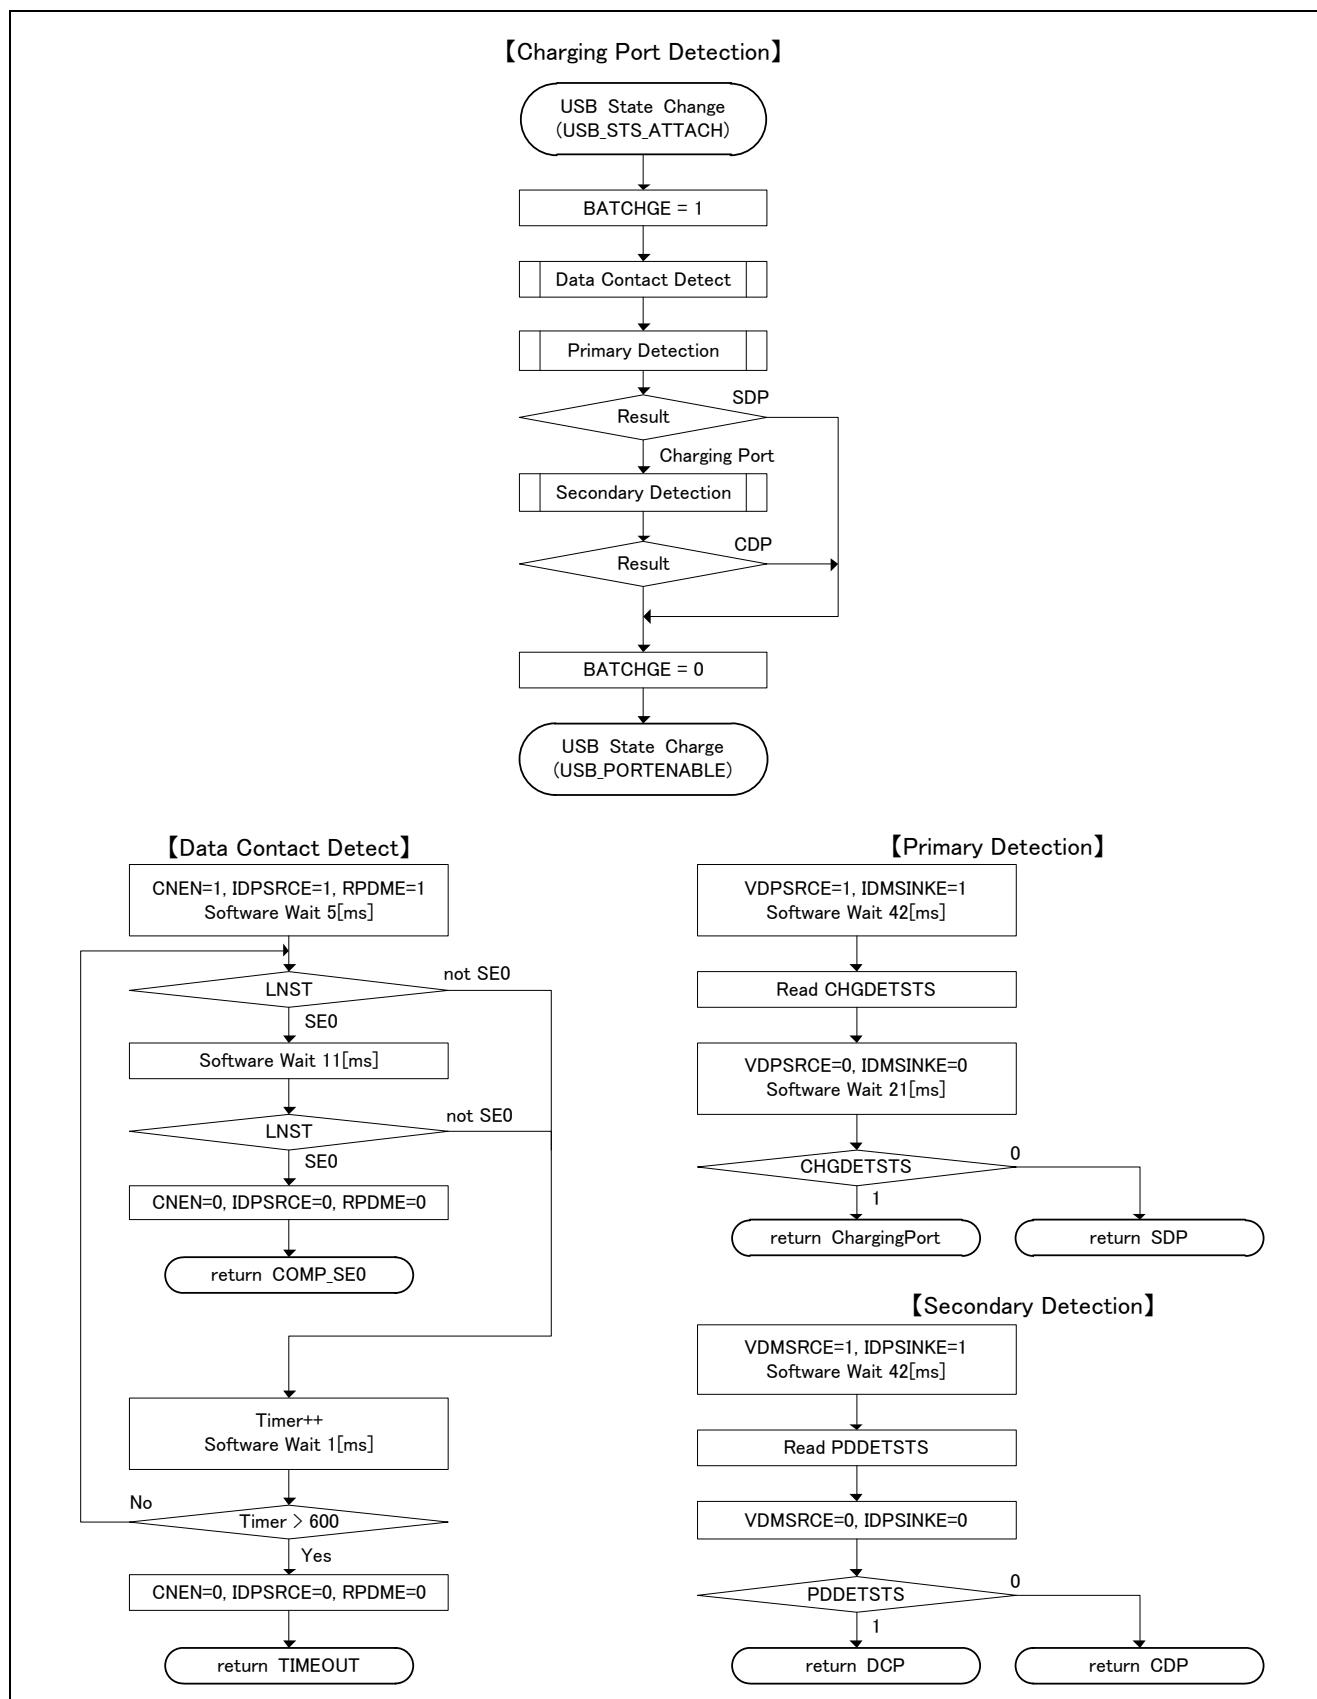

Figure 2-1 PBC processing flow
10. The processing flow of PBC is shown in Figure 2-1.